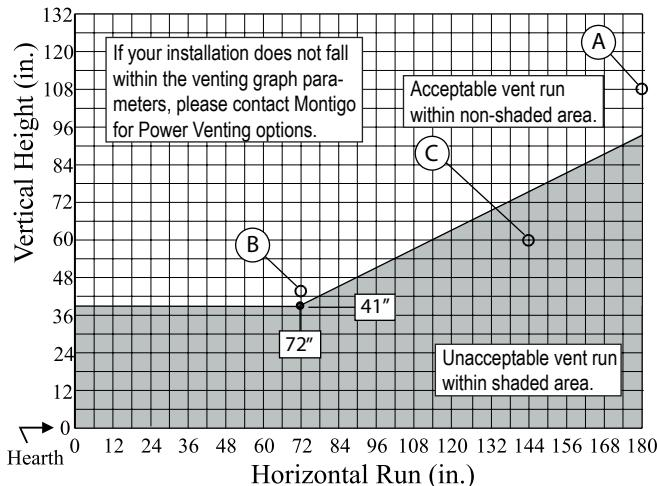

Figure 13 H34DL* Top Vent Venting Graph for wall mounted terminations, See Figures 15a & 15b.
- Once the proposed venting layout has been determined, refer to **Figure 13, 14 or 15** to ensure the layout is acceptable.
- Venting runs *must* fall within the limits set by the venting graphs, **Figure 13, 14 & 15**.
Measure the vertical height from the fireplace hearth to the centre of the termination and the horizontal run from the fireplace flue collar to the wall flange of the termination. Plot on the Venting Graph **Figure 13** with an 'X'.
Figure 15a. Top Vented, wall mounted installation with 1 elbow (1 one 90° bend). The vent run must comply with Venting Graph for Top vent, wall mounted terminations, Figure 13, 14 & 15.